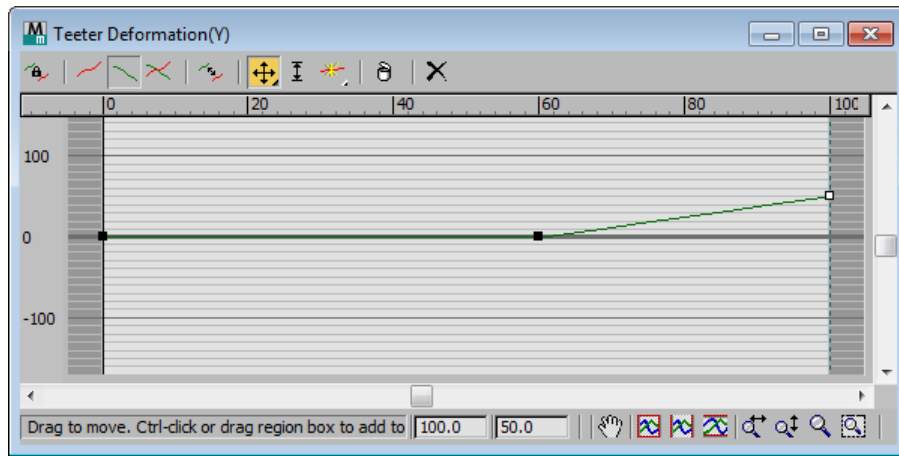

Figure 9-10 Adjusting the vertex
4. Pick the **Move Control Point** button in the dialog box and move the right-hand vertex up by five lines so that 50 is displayed in the right-hand text box in the dialog box, as shown in **Figure 9-10**.